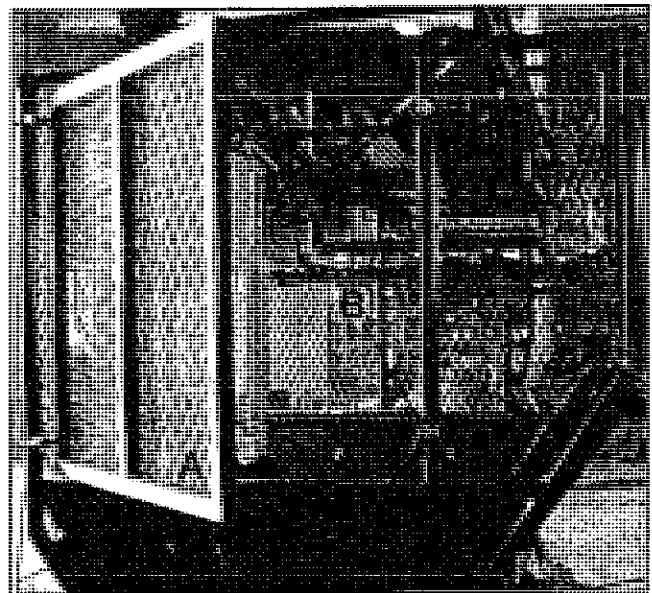

Figure 2.24: Access Door in Holding Tank. (A) - Access Door; (B) - Latches.
An access door (A) (see Figure 2.24) is provided in the holding tank. This door is opened by loosening latches (B) and moving them outward to release door.